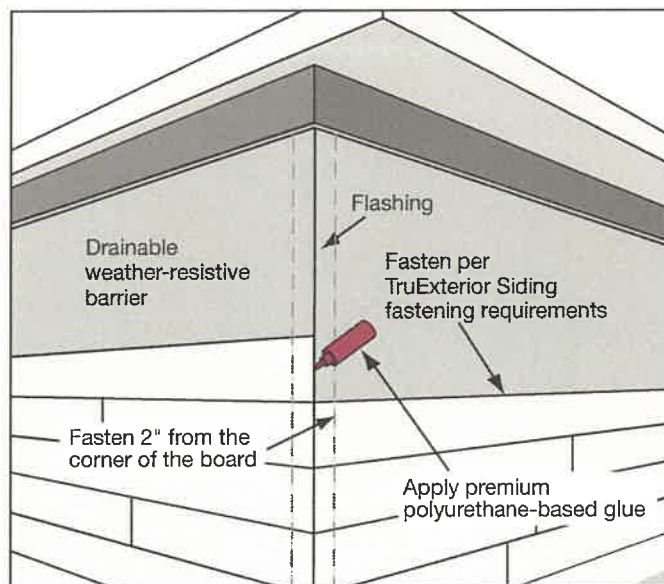

Fig. 15
- Proper leveling is essential for mitered siding corners. Take your time to keep each row of siding leveled to ensure corners appear seamless (**Fig.15**)